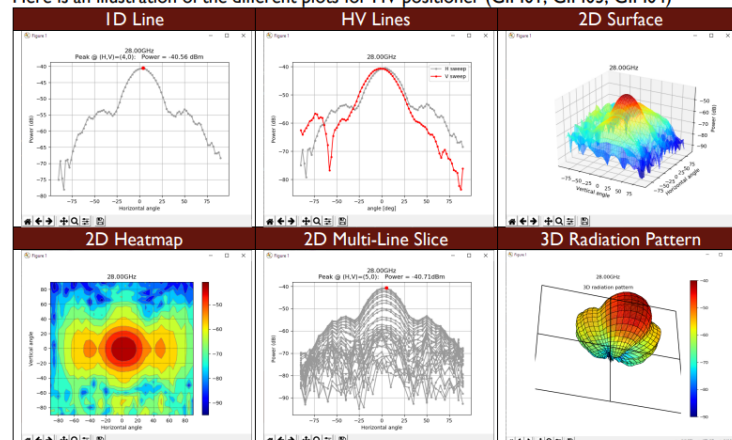

Figure 4 - Output Plots
The gimbal shown in Figure 3 rotates 360° vertically and horizontally with 0.088° resolution under program control. The User Interface (UI) plots the data in several formats including 1D-Line, H-V Lines, 2D Surface, 2D Heatmap, 2D Multiline Slice, and 3D Radiation Pattern as in Figure 4.